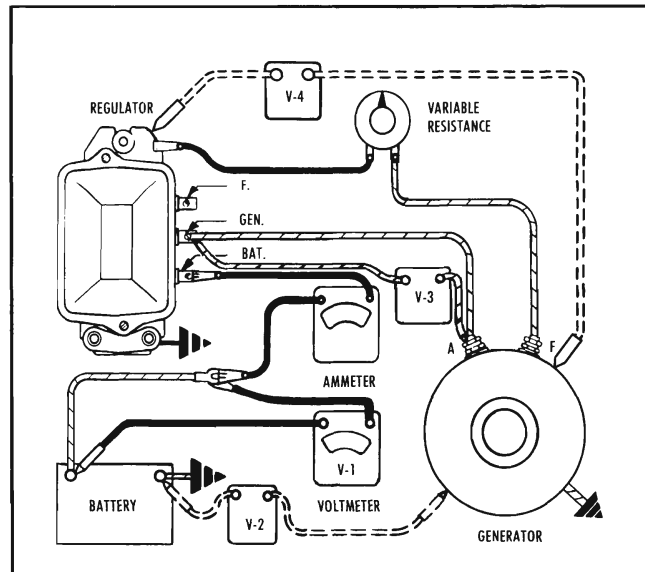

Fig. 11-35 Testing for Voltage Drops in Charging Circuit on Double Contact Voltage Regulator
Excessive voltage drop in the charging circuit (resulting from poor connections or other high resistance) tends to keep the battery in an undercharged condition. To check voltage drop, make connections as shown in Fig. 11-35 and proceed as follows:
4. With the engine stopped, turn on the full lighting and accessory load (approximately 20 amperes). Measure the voltage drop at V_4 (Fig. 11-35). If this voltage drop exceeds 0.1 volt, excessive resistance is indicated in this portion of the charging circuit.